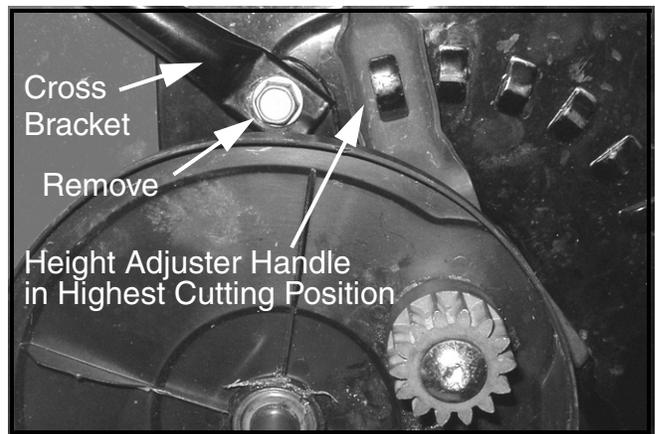

FIGURE 4
12. Using a 3/8" socket and ratchet, remove the self-tapping screw, spacer and wave washer securing the cross bracket (front to rear height adjusted rod) to the pivot bracket assembly. See Figure 4.
47. On the LH side, re-install the cross bracket using the wave washer, spacer and taptite screw removed in Step 12. Refer to Figure 4.